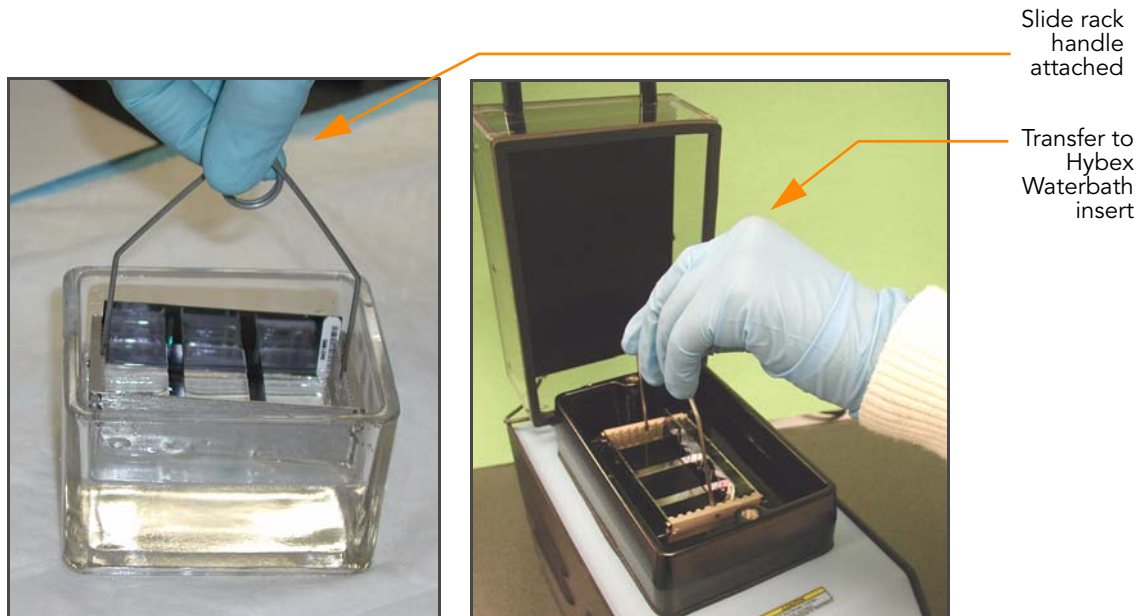

Figure 32 Transfer Wash Rack to Waterbath Insert
1. Using the slide rack handle, transfer the rack into the Hybex Waterbath insert containing High-Temp Wash buffer (Figure 32) that was prepared the previous day (see *Prepare High-Temp Wash Buffer* on page 47).